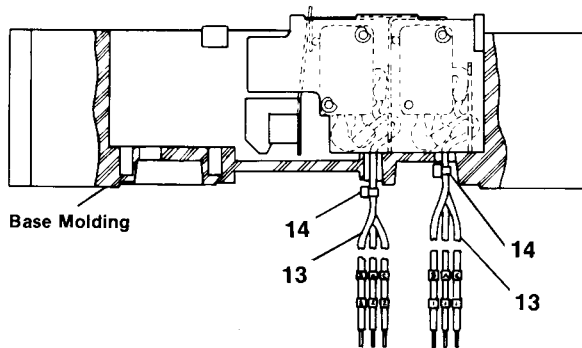

Fig. 6
7. Be sure wire leads (13) are pulled tight from the interior and maintain position by placing Ty-Wrap(s) (14) as close as possible to outside rear of base molding. See Fig. 6.